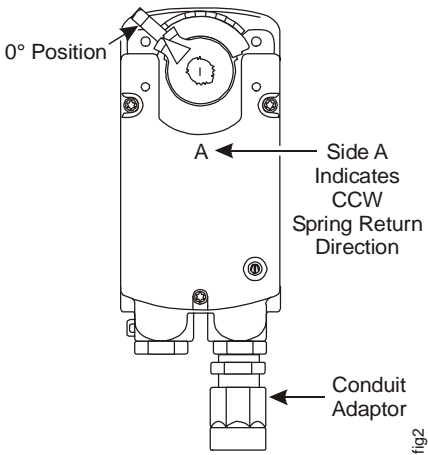

Figure 2: CCW Face of Actuator
For CCW spring return operation, mount the actuator to the damper shaft so that the CCW face of the actuator is away from the damper as illustrated in Figure 2. The coupler is at the 0° position to drive Clockwise (CW) and spring return CCW.
If using conduit or other electrical fittings, see Figure 2 and proceed as follows: